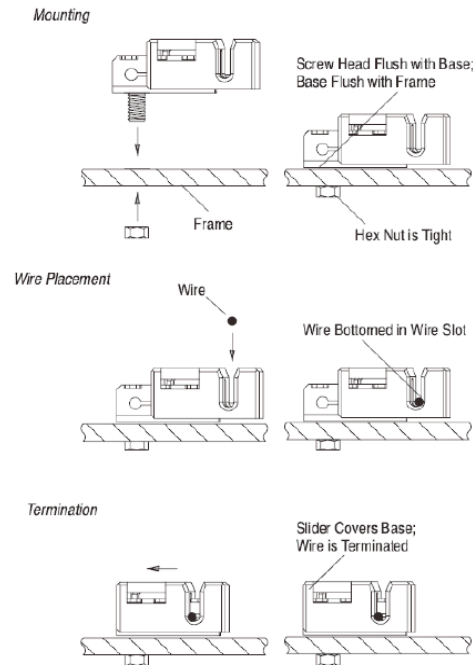

Figure 4 (Tyco Electronics Corp. 1954381-2)
(2) Grounding Using Existing Ground Hole (Figure 4)